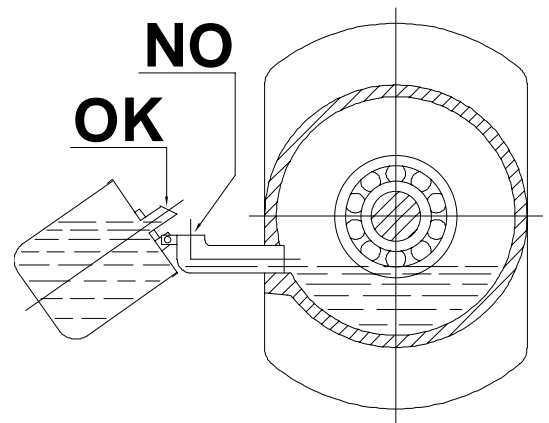

Fig. 23
- fill the oil-filler pouring oil directly into the oil-cruet and NOT into the elbow (see fig. 23)
The following fillings should be done pouring oil directly into the cruet and NOT into the elbow of the oil-filler or bearing frame plug (see fig. 23).